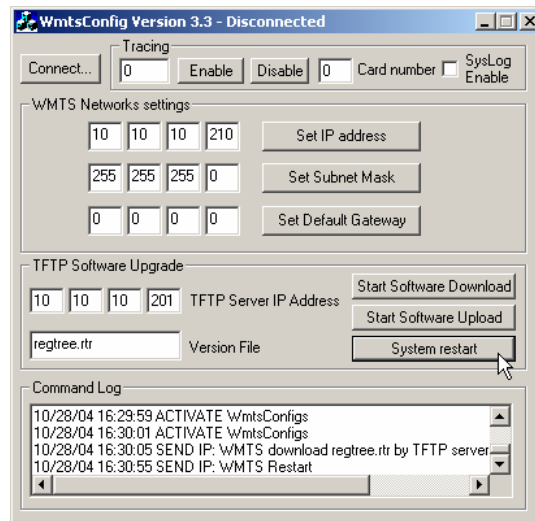

Figure 22: System Restart Message
5. When the file transfer is complete, click **System Restart** in the WMTS Configuration Tool window (see Figure 22).